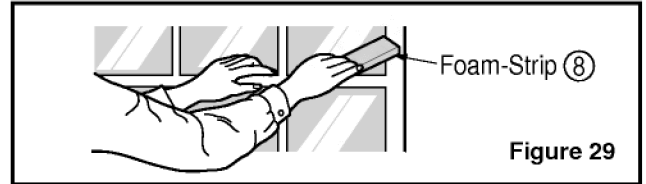

Figure 29
11. Cut the foam-strip  $\otimes$  to the proper length and insert between the upper and lower window sash. (See Fig. 29)